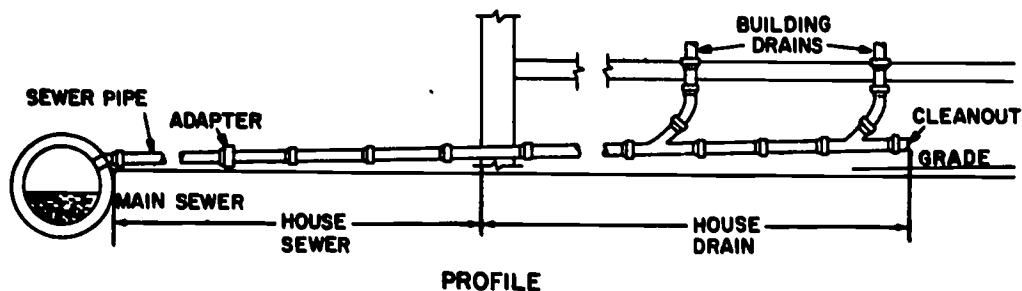

Fig 3-1. Building sewers and drains.
There are four basic parts of a waste system which are as follows: (1) the house sewer; (fig 3-1) which begins just outside the foundation and ends at a street sewer or a septic tank; (2) The house drain (fig 3-1) which receives the discharge of soil and waste within the building. It can be installed underground or suspended from the first floor joists. It is also called the "collection lines" and includes such appliances as house traps, backflow valves, cleanouts, and area drains. House drains will fall into one of four classes on any specific set of building plans.
As was stated previously, the house or building sewer (refer to fig 3-1) is that part of the sanitary system beginning just outside the building foundation wall and ending at the main sewer in the street or at the septic tank. The house or building drain (refer to fig 3-1) is that part of the plumbing system which receives the discharge of all soil and waste stacks in the building and conveys it to the building sewer. To insure proper drainage of these two systems, you should know how to determine the proper size of the pipeline and how to install and grade it.